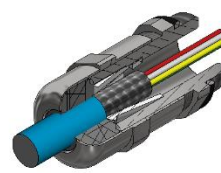

fig.3
- Fully tighten the gland cap (fig.3)